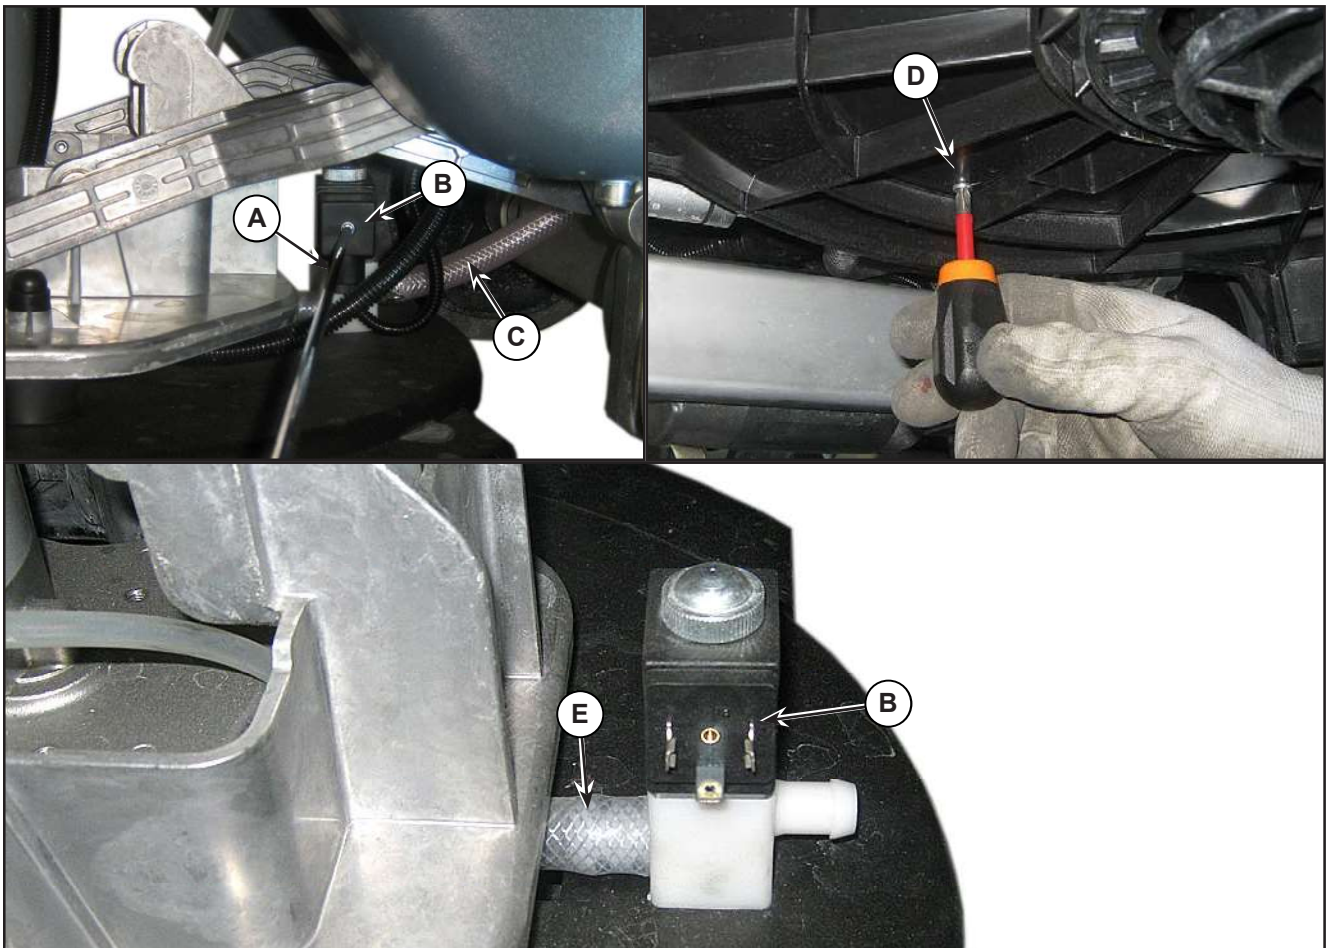

Figure 11:
5. Unscrew and disconnect the connection (A) (Figure 11) on the solenoid valve (B).
6. Disconnect the detergent supply hose (C) from the solenoid valve.
7. Unscrew the two screws (D), disconnect the hose (E), then remove the solenoid valve (B).